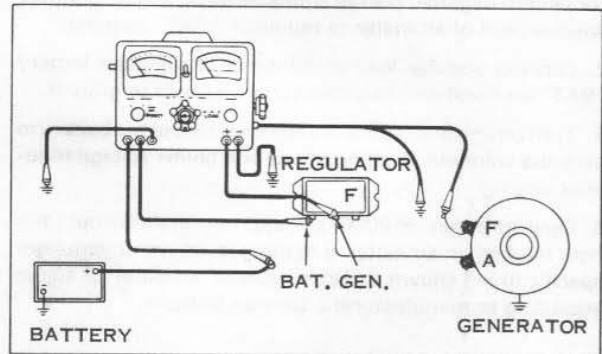

Figure 5-32.
B. TESTER CONNECTIONS (See Figure 5-32)
D. TESTING CUTOUT RELAY UNIT CLOSING VOLTAGE (Figure 5-32)
Use same tester connections as previous Test C. (Figure 5-32)